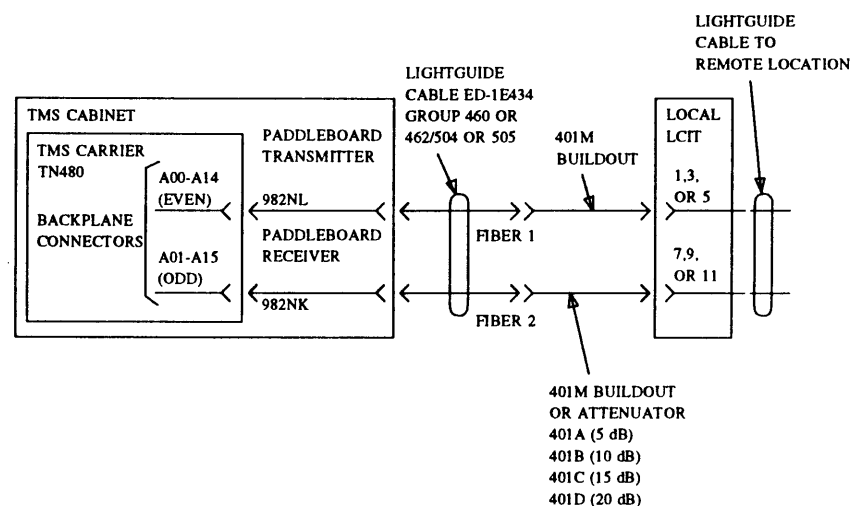

Figure 26-24. Central TMS Fiber-Link Connections for Unduplicated MC (Phases 1 and 2)
Install the TMS fiber link(s) for the central location from the TMS carrier(s) to the central LCIT. Figures 26-24 and 26-25 show the connections for an unduplicated and duplicated system. The cable must be loosely supported to prevent damage. The fiber-optic cable has a minimum bend radius of 1.5 inches.
Use the CSD to determine the connector pins that are used on TMS carrier(s) for the TMS fiber link to each remote module. If CSDs are unavailable, table 26-8 can be used to determine this information for an unduplicated system. Tables 26-9 and 26-10 can be used to determine this information for a duplicated system. Look up the module number of each remote module in the appropriate table, and use the corresponding TMS carrier and pin numbers to connect from the TMS backplane to the LCIT as shown in figures 26-24 and 26-25. The number of a remote module is determined by the module that is in the system.
5. Connect the fiber-optic cables to the appropriate attenuator as shown in figures 26-24 and 26-25.